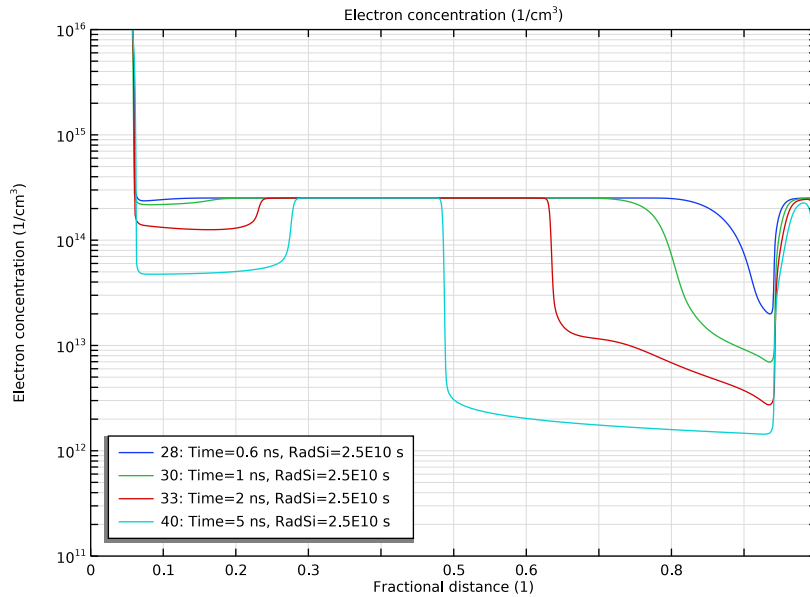

Fig. 7C Electric Field Distribution at Several Times
- 2 In the **Settings** window for **ID Plot Group**, type Fig. 7C Electric Field Distribution at Several Times in the **Label** text field.
- 1 In the **Model Builder** window, expand the **Fig. 7C Electric Field Distribution at Several Times** node, then click **Line Graph 1**.
5 In the **Fig. 7C Electric Field Distribution at Several Times** toolbar, click  **Plot**.